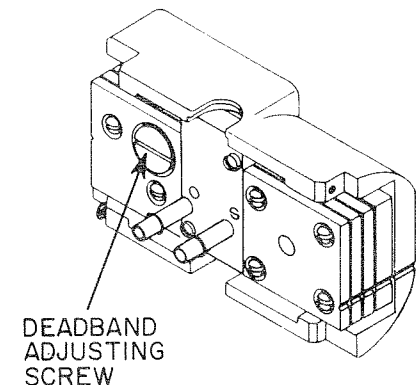

Fig. 2.36: Back of T-4054
1. Remove the T-4054 from the mounting bracket and pull it away from the wall so that the deadband adjusting screw on the back of the instrument is exposed (see Fig. 2.36).